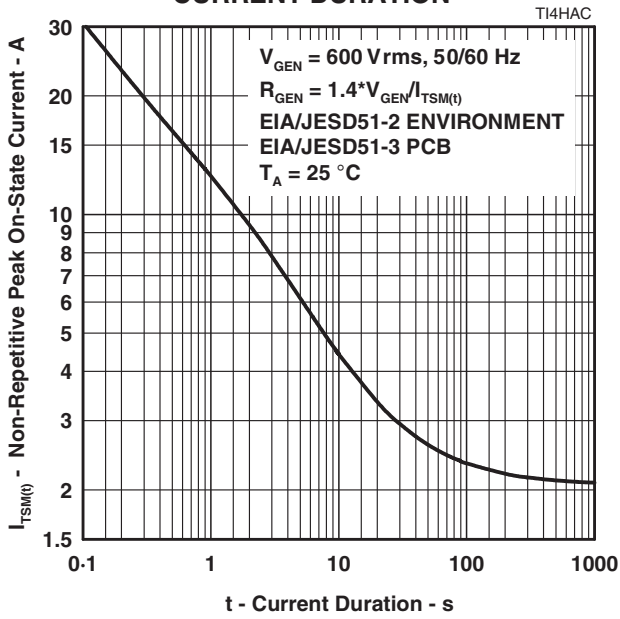

Figure 6.
4. EIA/JESD51-2 environment and EIA/JESD51-3 PCB with standard footprint dimensions connected with 5 A rated printed wiring track widths. See Figure 6 for the current ratings at other durations. Derate current values at $-0.61\text{ }^\circ\text{C}$ for ambient temperatures above $25\text{ }^\circ\text{C}$.